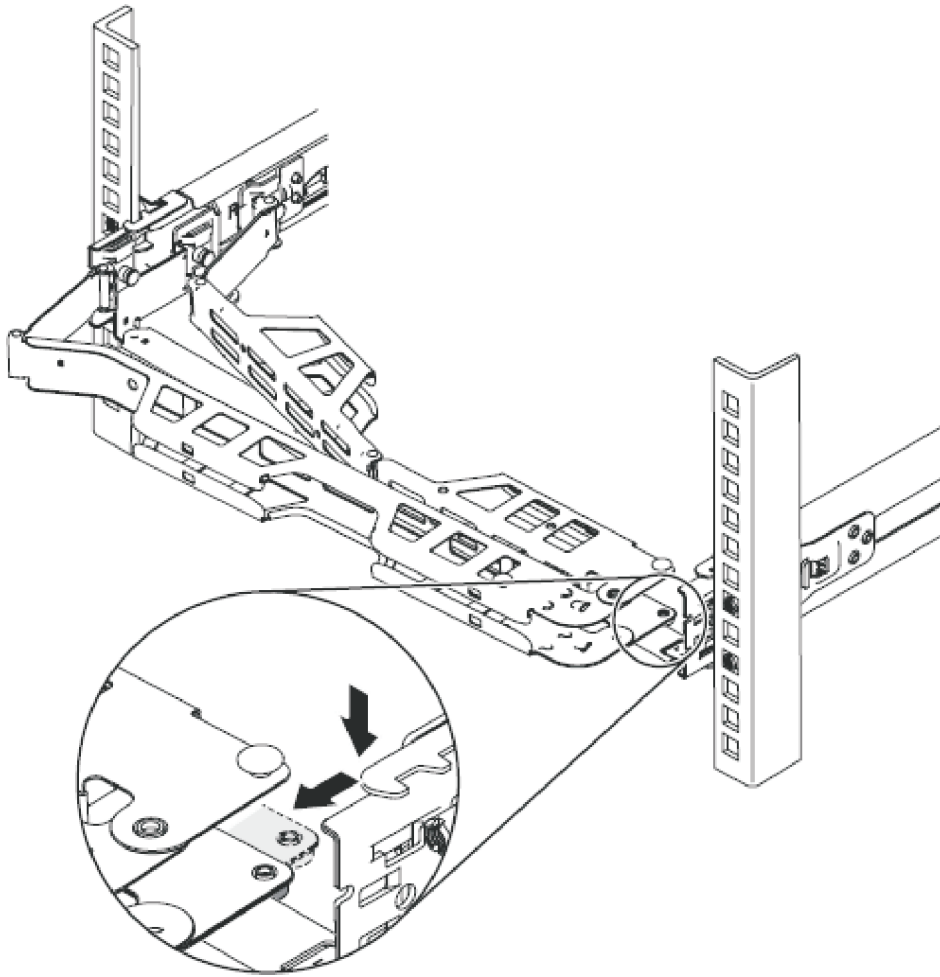

Figure 28. Adjusting the location of the cable-management arm
3. Adjust the location of the cable management arm, as shown in Figure 28 on page 28.